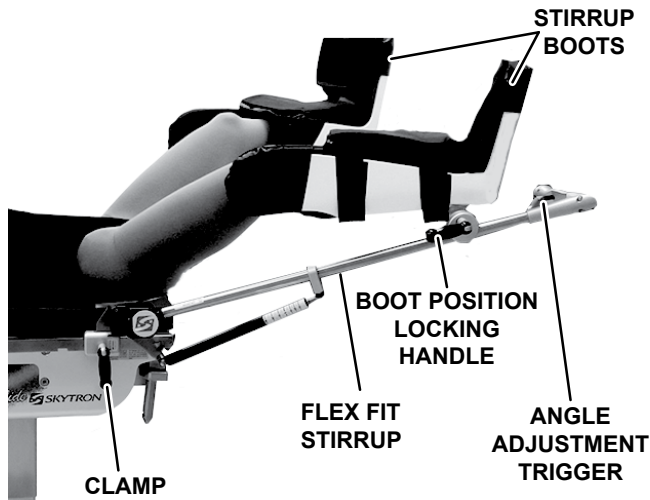

Figure 1. Skytron Flex Fit 600 stirrups
The Skytron Flex Fit 600 stirrups are a premium solution for lithotomy positioning (Figure 1).
- Loosen the boot position locking handle (Figure 1), unscrewing it to loosen it.